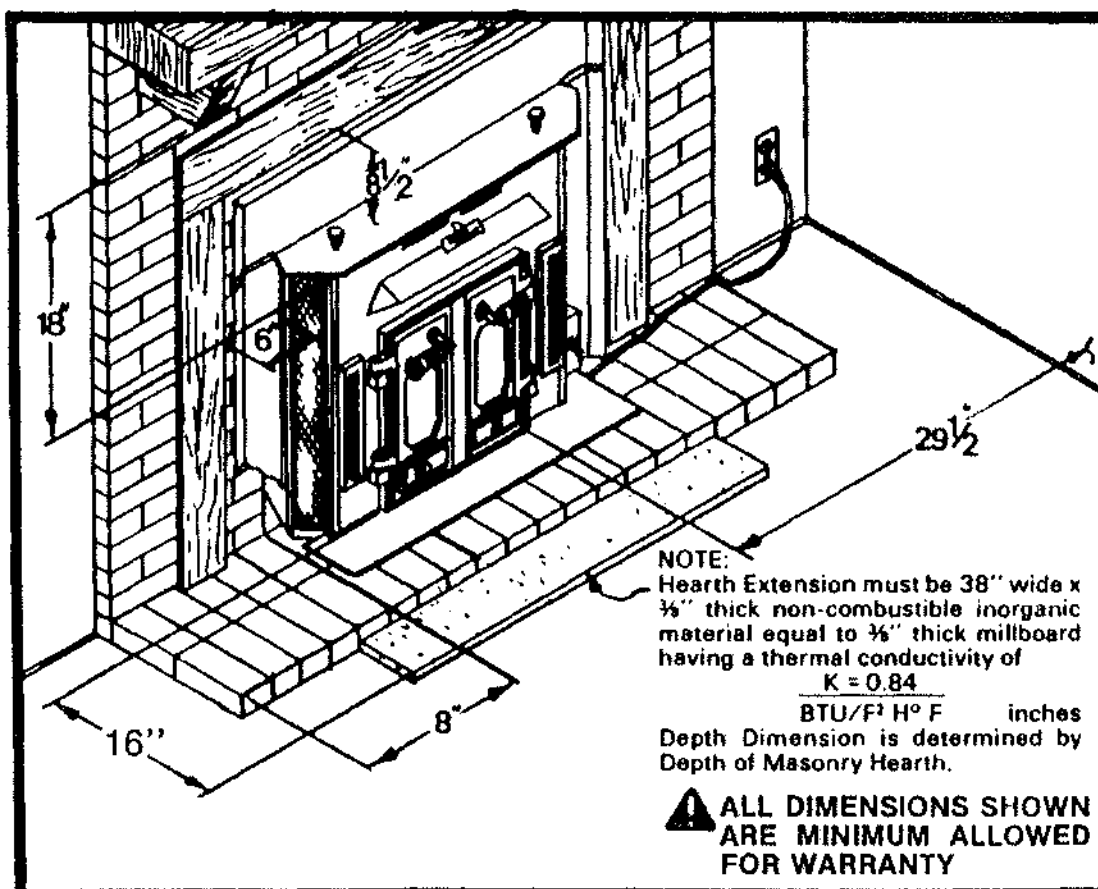

FIGURE 2
4. If your fireplace has wood trim above it, or a wood mantel, it must be located so there is at least 20" between the top of the **BUCK STOVE** and any part of the trim or mantel including supports. This can be reduced to 18" (See Figure 2). If a modified trim kit is used (examples shown in Figure 8, Page 9 and Bending Modification Tips for Modified Trim Kit, Page 10.)